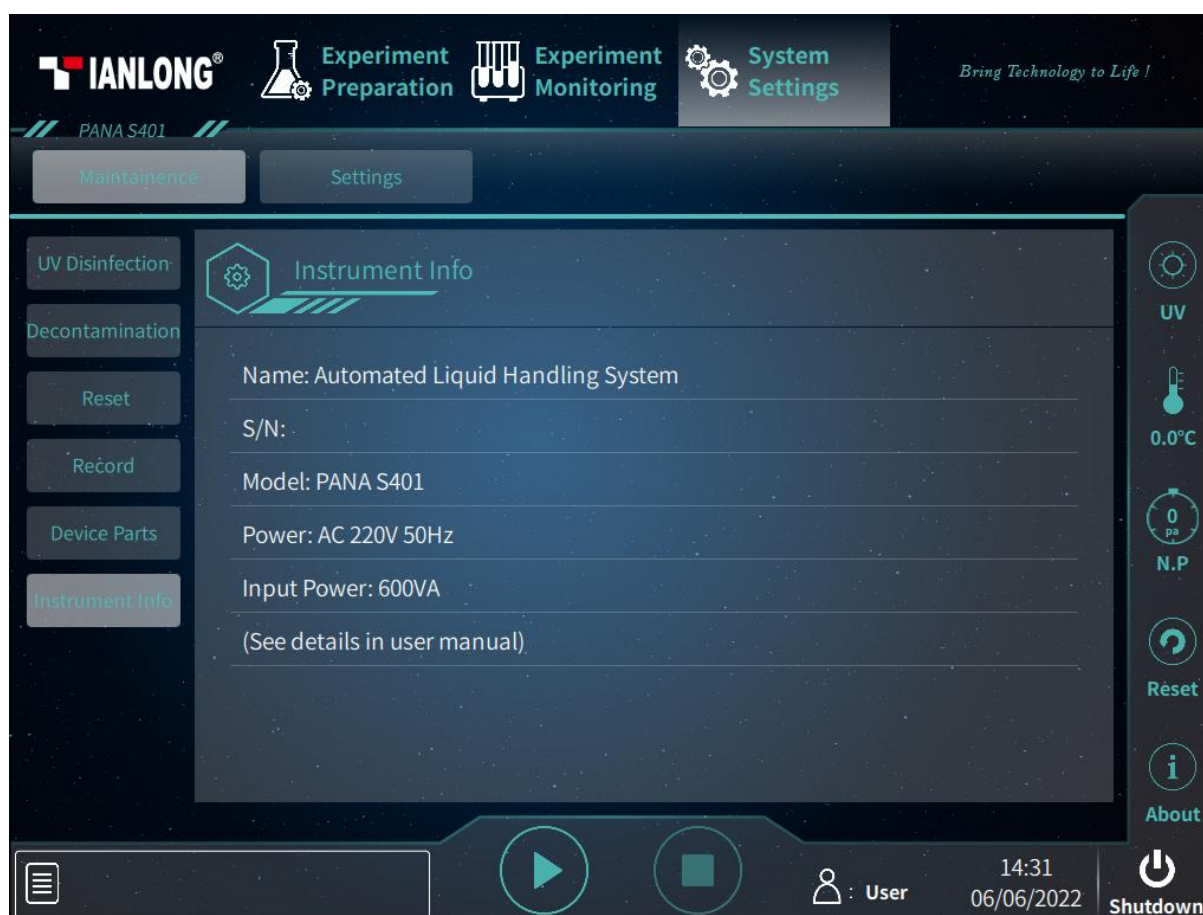

Figure 5-21. System Settings Interface – Maintenance Tab – Instrument Info
- **< Instrument Info >**: User could click this function key to view the instrument's name, S/N, Model, etc., as shown in figure 5-21.